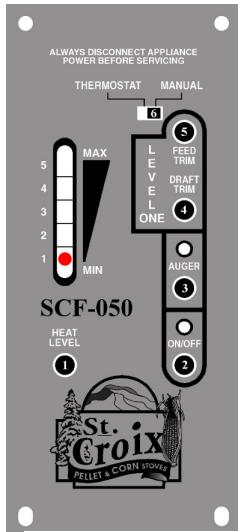
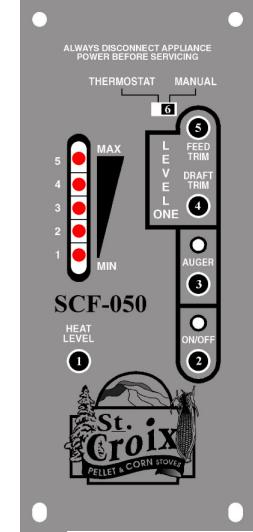

Figure 2
Figure 5
2. The On/Off button (2) turns the Furnace On and Off. It will also reset the board after the board has sensed a problem and is flashing a Diagnostic code.
3. The Auger button (3) will allow the customer to manually auger fuel into the burn pot on start up when needed. This is particularly helpful in priming the Auger Tube when it is empty.
4. The Draft Trim button (4) allows for adjusting the Exhaust fan voltage on Heat Level 1 only. Push the button and all of the LED Lights in the light bar will flash once (See figure 5). This decreases the voltage approximately 5 volts below the default setting. Push the button a second time and all of the LED Lights in the light bar will flash twice. (See figure 5) This increases the voltage approximately 5 volts above the default setting. Pushing the button a 3rd time will reset the voltage to the default setting. This adjustment is available to fine tune the #1 Heat Level draft setting. This would only be used in the case the furnace was hooked up to a tall Vertical Chimney (to decrease the draft if needed) or if it was connected to a Chimney with a long Horizontal run (to increase the draft if needed).
5. The Feed Trim button (5) will allow the Fuel feed rate to be adjusted on Heat Level 1 only. Heat Level 1 should be seen as the Pilot setting of the furnace, when operating on a Thermostat. Pushing the Feed Trim button (5) will switch between the different adjustments. Heat Level one can be adjusted in the following ways:
- a. The first LED only indicates the Normal #1 setting. (2.5 second on time). This is the highest Pilot setting and may be used when heating a larger size home. (See figure 2)